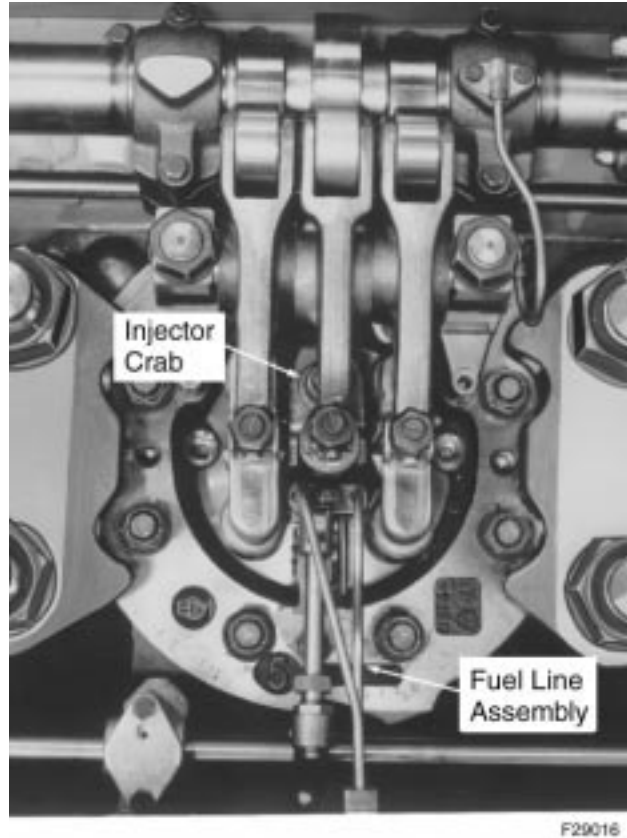

Figure 5-3. Typical Fuel Line Assembly Removal (shown W/ MUI)
14. Remove the fuel line assembly, Figure 5-3. Also remove the fuel line assembly from the opposite cylinder on the opposite bank of the engine.
14. Remove the fuel line assembly, Figure 5-3., on page 5-5. Also remove the fuel line from the opposite cylinder on the opposite bank of the engine. Care should be taken that the spherical seats used on some fuel line ends are not scratched or nicked as this could cause leakage.